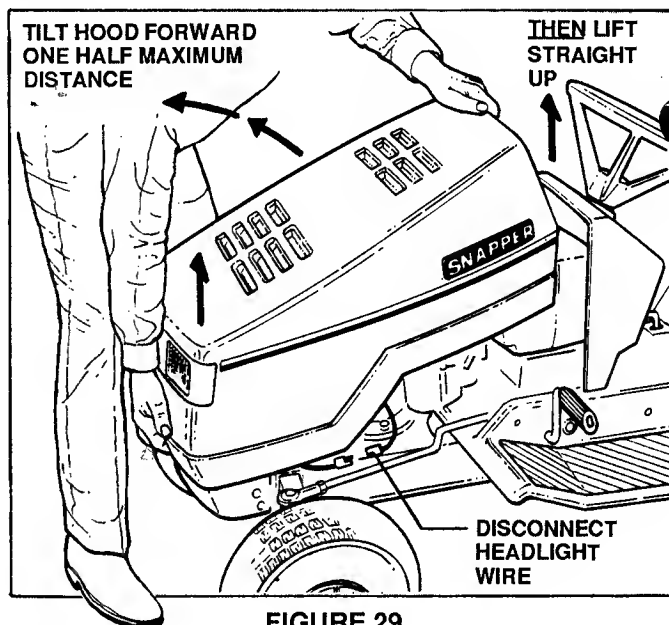

FIGURE 29
2. Tilt hood one half maximum distance, then lift straight up to remove. There will be some resistance from the retaining pins, requiring a slight "tug". See Figure 29.